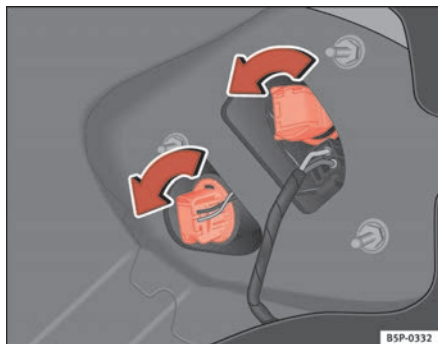

Fig. 188 Lights on vehicle body
- Turn the lampholder to the left ⇒ fig. 188.